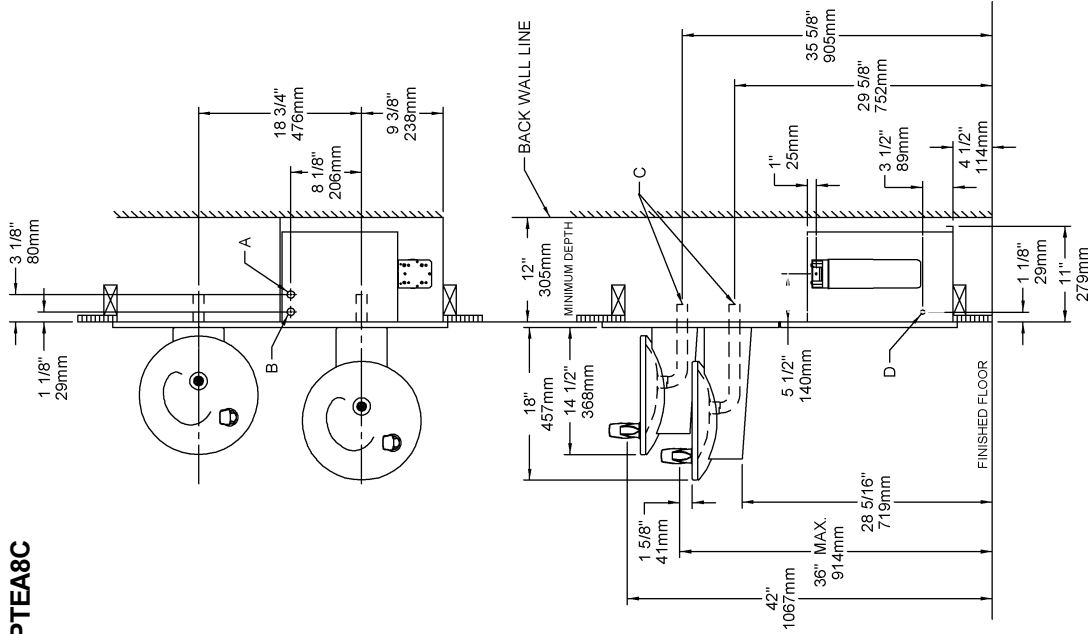

FIG. 6
1. **Install** remote chiller. Remove front panel of chiller. Remove and discard cardboard inner pack from between compressor and side panel. Slide chiller onto the shelf and position it to the left side of shelf. (See Figure 6)